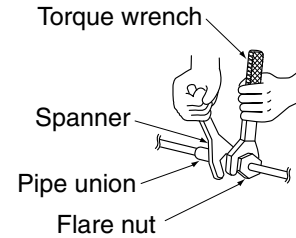

Fig. 14
- Be sure to use both a spanner and torque wrench together, as shown in the drawing, when connecting or disconnecting pipes to/from the unit. (Refer to Fig. 14)